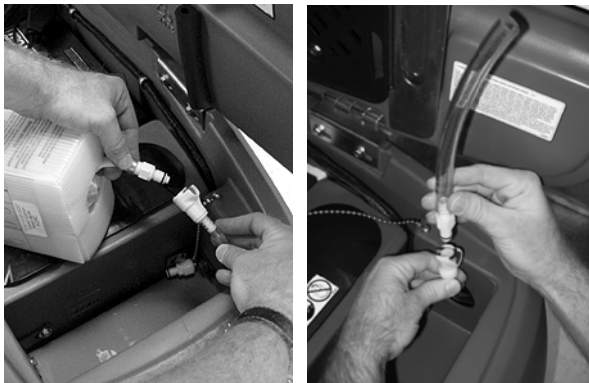

FIG. 68
1. Remove the FaST-PAK carton and connect the valve coupling and 6 in (15 cm) hose to the FaST detergent supply hose (Figure 68).